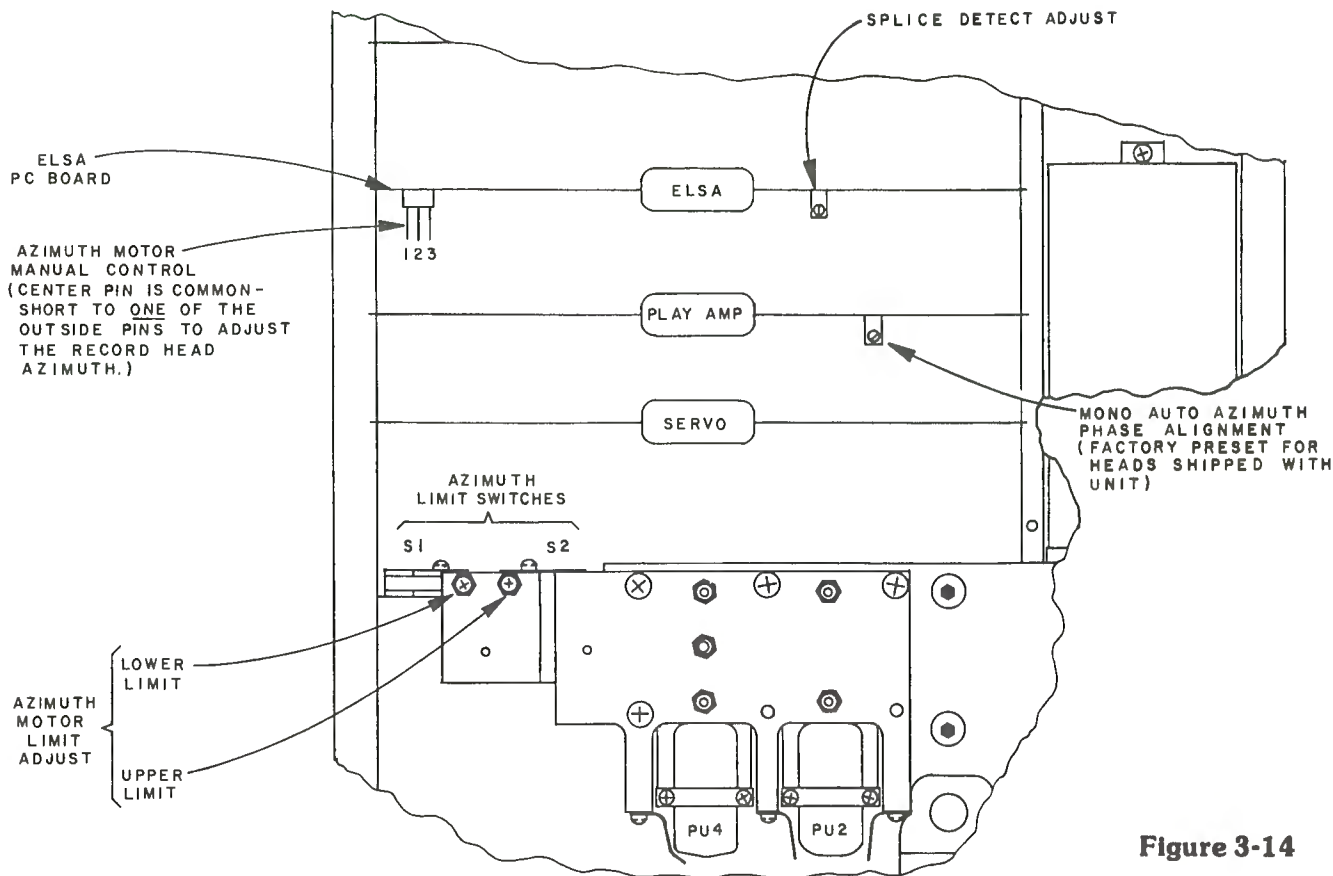

Figure 3-14
- f. Machines equipped with the automatic azimuth (ELSA) function use a D.C. gearhead motor in place of the recording head azimuth set screw to control the recording head azimuth. Azimuth motor manual control is achieved by shorting control pins 2 to 1 or 2 to 3 on the ELSA PC board. See Figure 3-14. For Mono phase adjustment see Electrical Adjustment V.
- e. Machines equipped with the automatic azimuth function use a DC gearhead motor in place of the recording head azimuth set screw to control the recording head azimuth. Azimuth motor manual control is achieved by shorting control pin 2 to 1 or 2 to 3 on the ELSA PC board. See Figure 3-14.
3. Slowly turn the Lower Limit switch screw clockwise, shown in Figure 3-14, until a "click" is heard. The "click" is produced when the switch changes state.
See Figure 3-14 for location of the azimuth motor manual control pins (located on the ELSA PC board). After testing, be certain to re-adjust phasing or azimuth of the recording head as outlined in Section III I or III J.